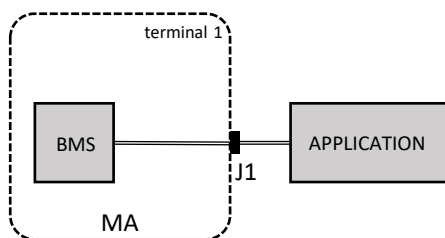

Fig. 3 All-in-one. Control function connector J1
- J1 is installed on terminal 1, as shown in Fig. 3